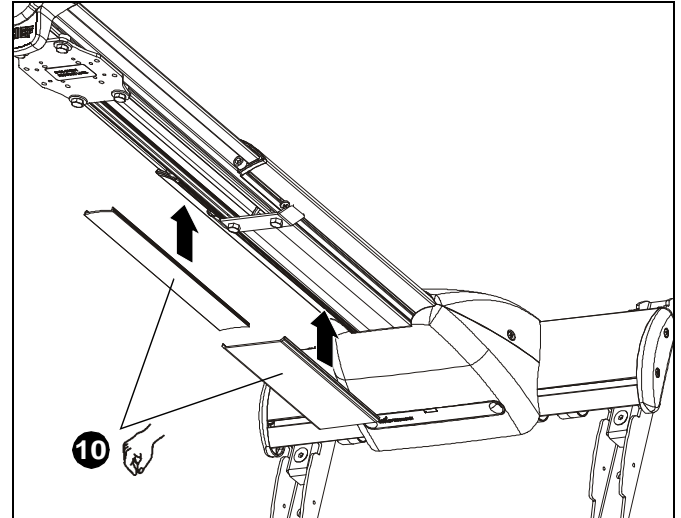

Figure 61
10. Replace removed cable management covers (if necessary). Insert one side of cover into groove and press firmly on the cover on the other side until it snaps into the other groove. (See Figure 61)